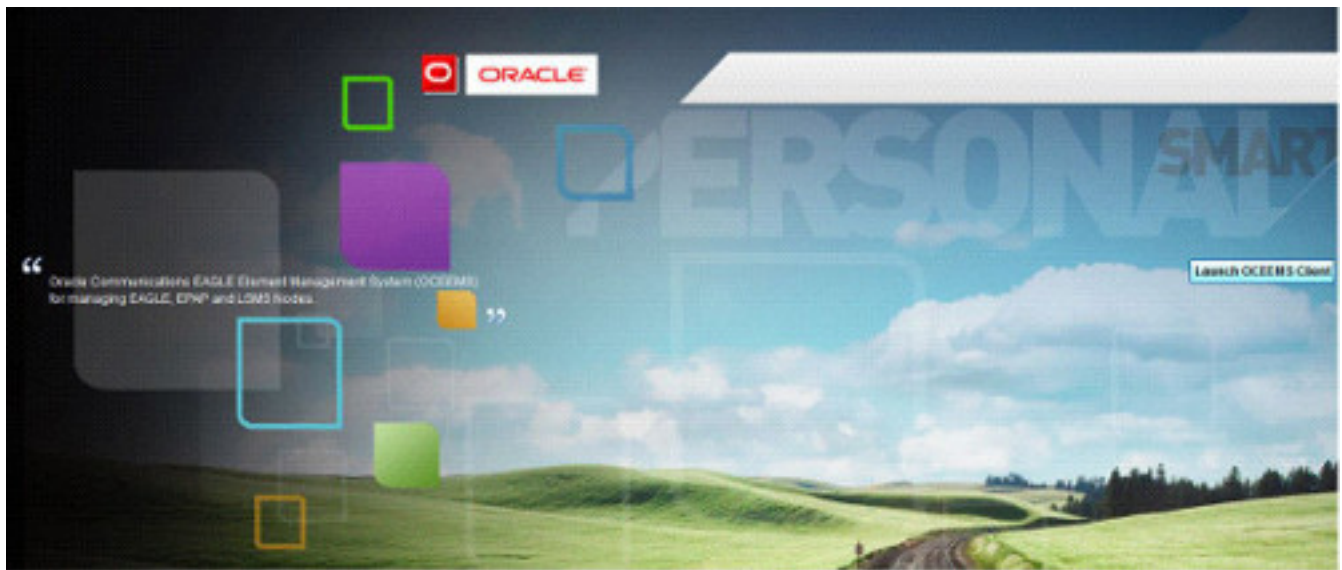

Figure 2: OCEEMS Launch Screen
The OCEEMS Graphical User Interface (GUI) provides a comprehensive geographical view for users to monitor and control their EAGLE system network. The user receives real-time performance data from the EAGLE system that assists in maintenance operations. The System Administrator and users launch the OCEEMS and log in from a client workstation as shown in Figure 2: OCEEMS Launch Screen.
1. Click **Launch OCEEMS Client** on the **OCEEMS Launch** screen (see Figure 2: OCEEMS Launch Screen).